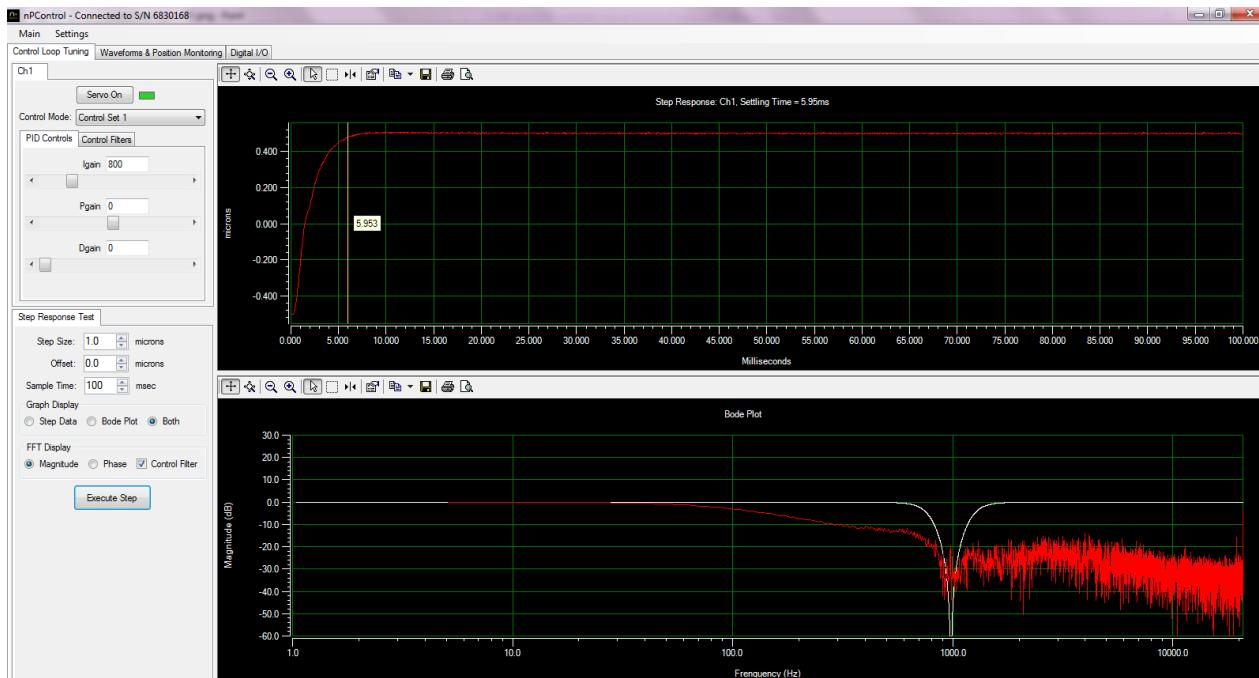

Figure 3-7: Step response of a system in closed-loop with the proper notch filters enabled and an Integral gain equal to 800.
- Once the appropriate notch filter parameters have been enabled, a faster settling time can be achieved by increasing the Integral gain (in the **PID Controls** tab). This is shown below in Figure 3-7 where an I gain of 800 has been used.